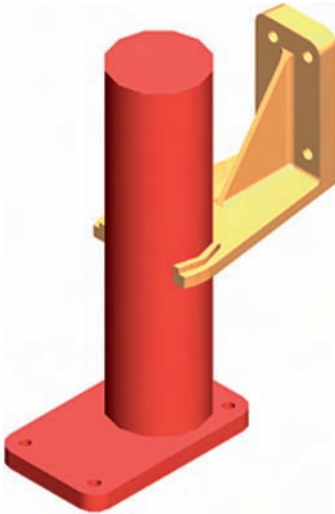

Fig. 16.23 Second example – Rendering
Second example – rendering a 3D model (Fig. 16.23)
3. Add two materials to the parts of the assembly and render the result. Fig. 16.23 shows the resulting rendering.
1. Open the file of the second example of rendering (Fig. 16.23).